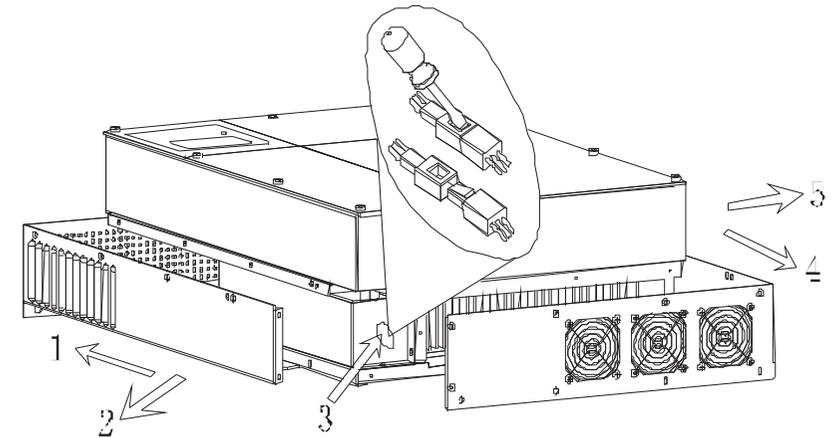

Fig 8.1.3
To unlock the plug connectors, you need some tinny tools. There are 2 connectors, as Fig8.1.3 3 show.
6. Remove the shell plane of the top and left side, as Fig8.1.3 1 2 4 5 show.